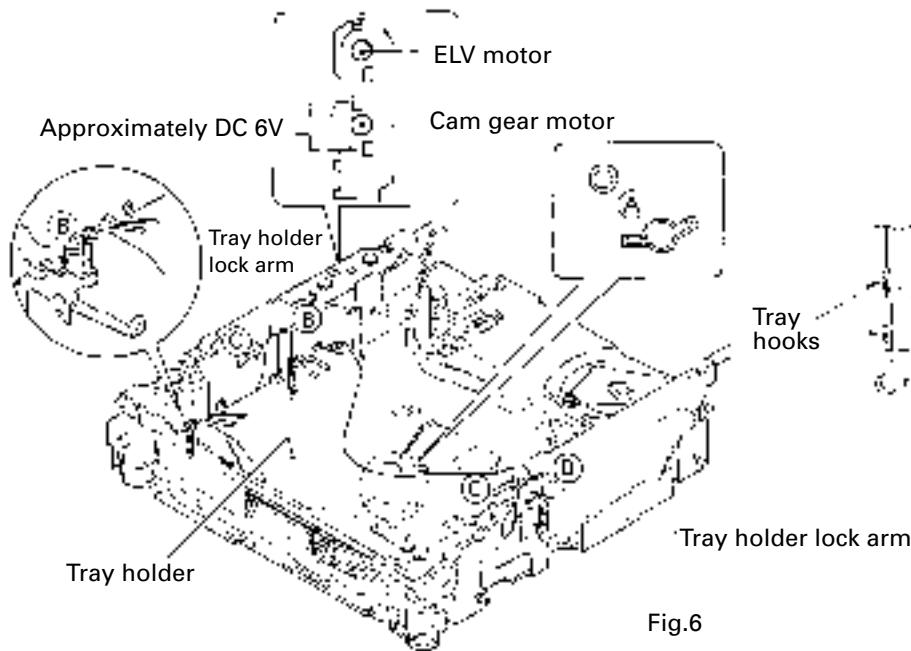

Fig.6
1. Apply about 6V current to the Cam gear motor until all holes match at the position (A) (elevation OK position).
2. Hook the three springs B temporarily as shown in Fig. 6. While pushing the Tray holder lock arms (right and left) in the direction (C), remove the Tray holder.